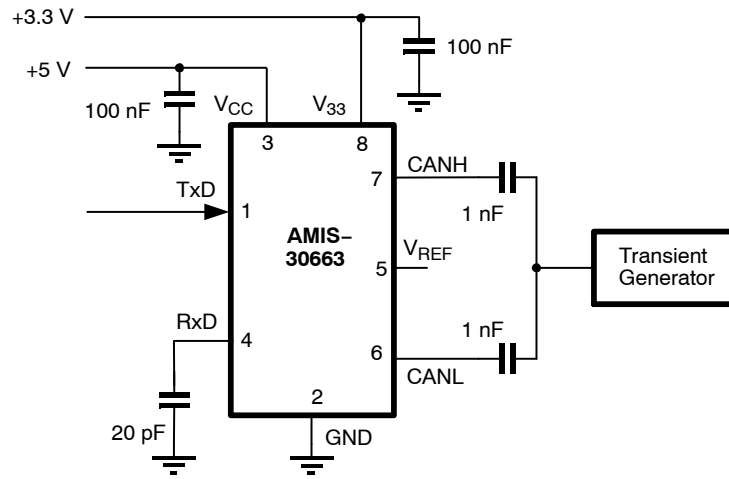

Figure 4. Test Circuit for Automotive Transients
- Applied transient waveforms in accordance with "ISO 7637 part 3", test pulses 1, 2, 3a and 3b (see Figure 4).